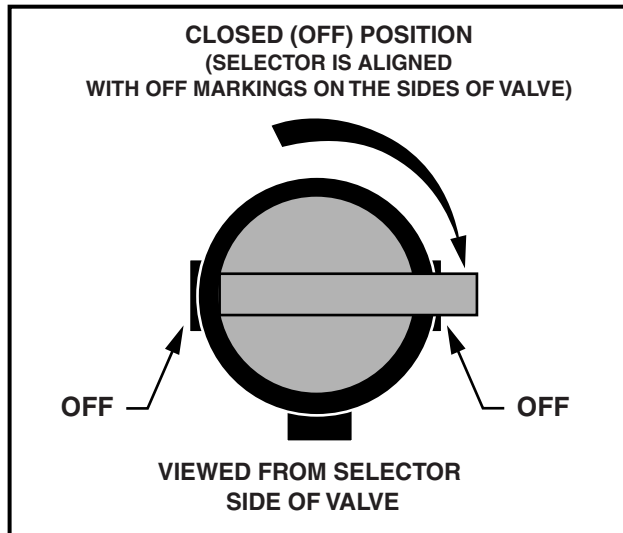

Figure 12 Fuel Shut-off Valve – Closed Position
**Gasoline vehicles only:** Turn the fuel shut-off valve to the closed (OFF) position when the vehicle is not in use (Figure 12, Page 27). See also Figure 33 and Figure 34 on page 41.
- Gasoline vehicles only: Turn fuel shut-off valve to the closed (OFF) position (Figure 12).
- Gasoline vehicles only: Turn fuel shut-off valve to the closed (OFF) position (Figure 12, Page 27).